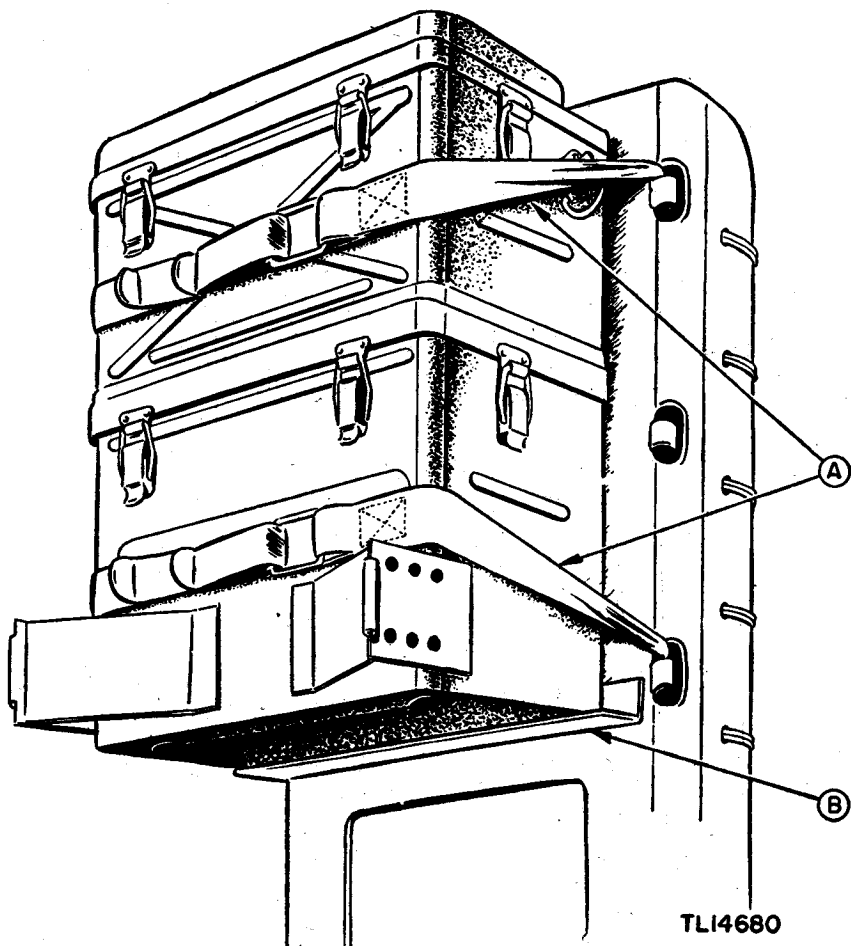

Figure 38. Complete Radio Set SCR-300-A, mounted to standard QM packboard, using quick release straps and cargo attachment.
a. COMPLETE MOUNTING. (1) Slip the cargo attachment on the lower edge of the third opening from the top of the packboard as shown at *B* in figure 38.
(2) Mount the complete radio set to the packboard and fasten securely with two quick release straps, as shown at *A* in figure 38.